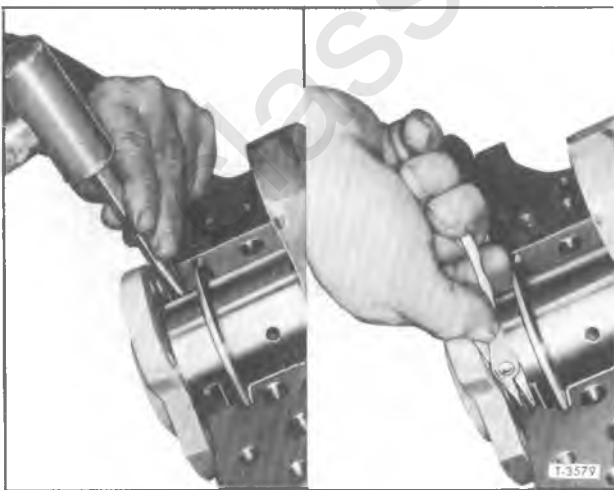

Figure 18—Removing Oil Seal Upper Half (Typical)
3. Use light hammer and small brass pin punch in manner shown in figure 18 to start seal upper half out of block. When end of seal protrudes far enough to be grasped with pliers, pull upper half out of block.